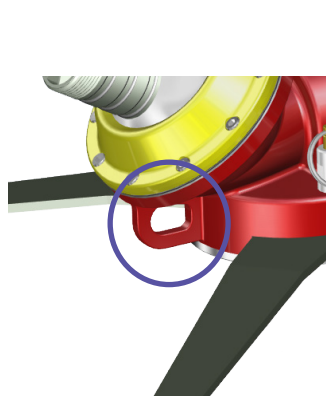

Fig. 4
- **1** - Attach the supplied strap to the towing ring (Fig. 4).